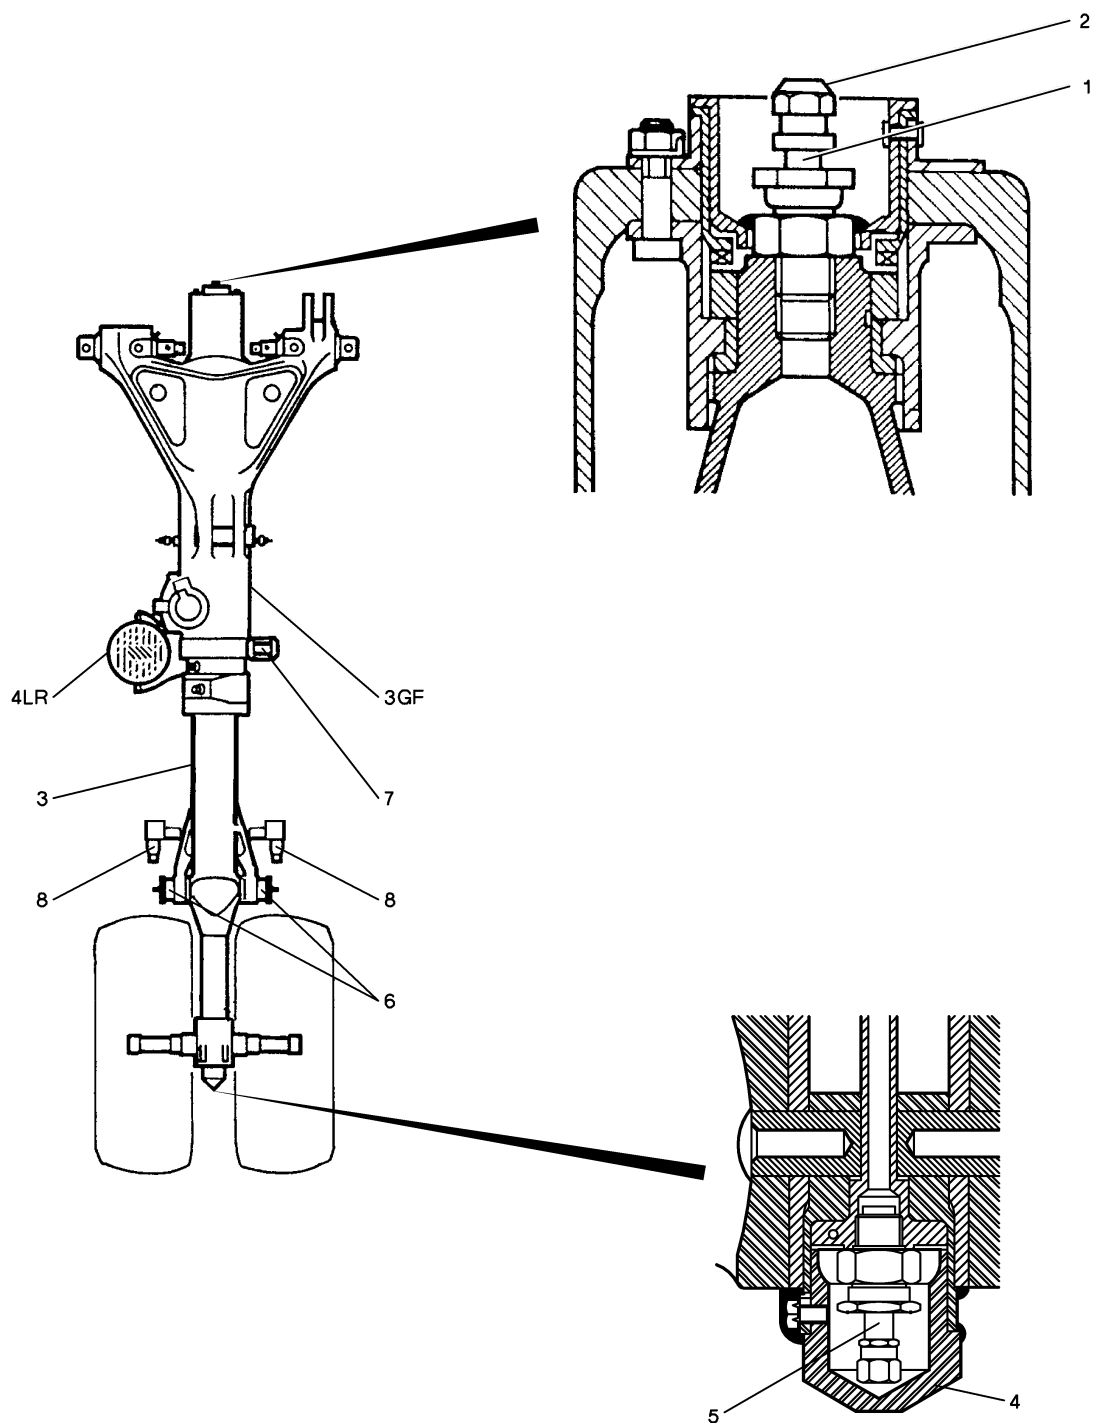
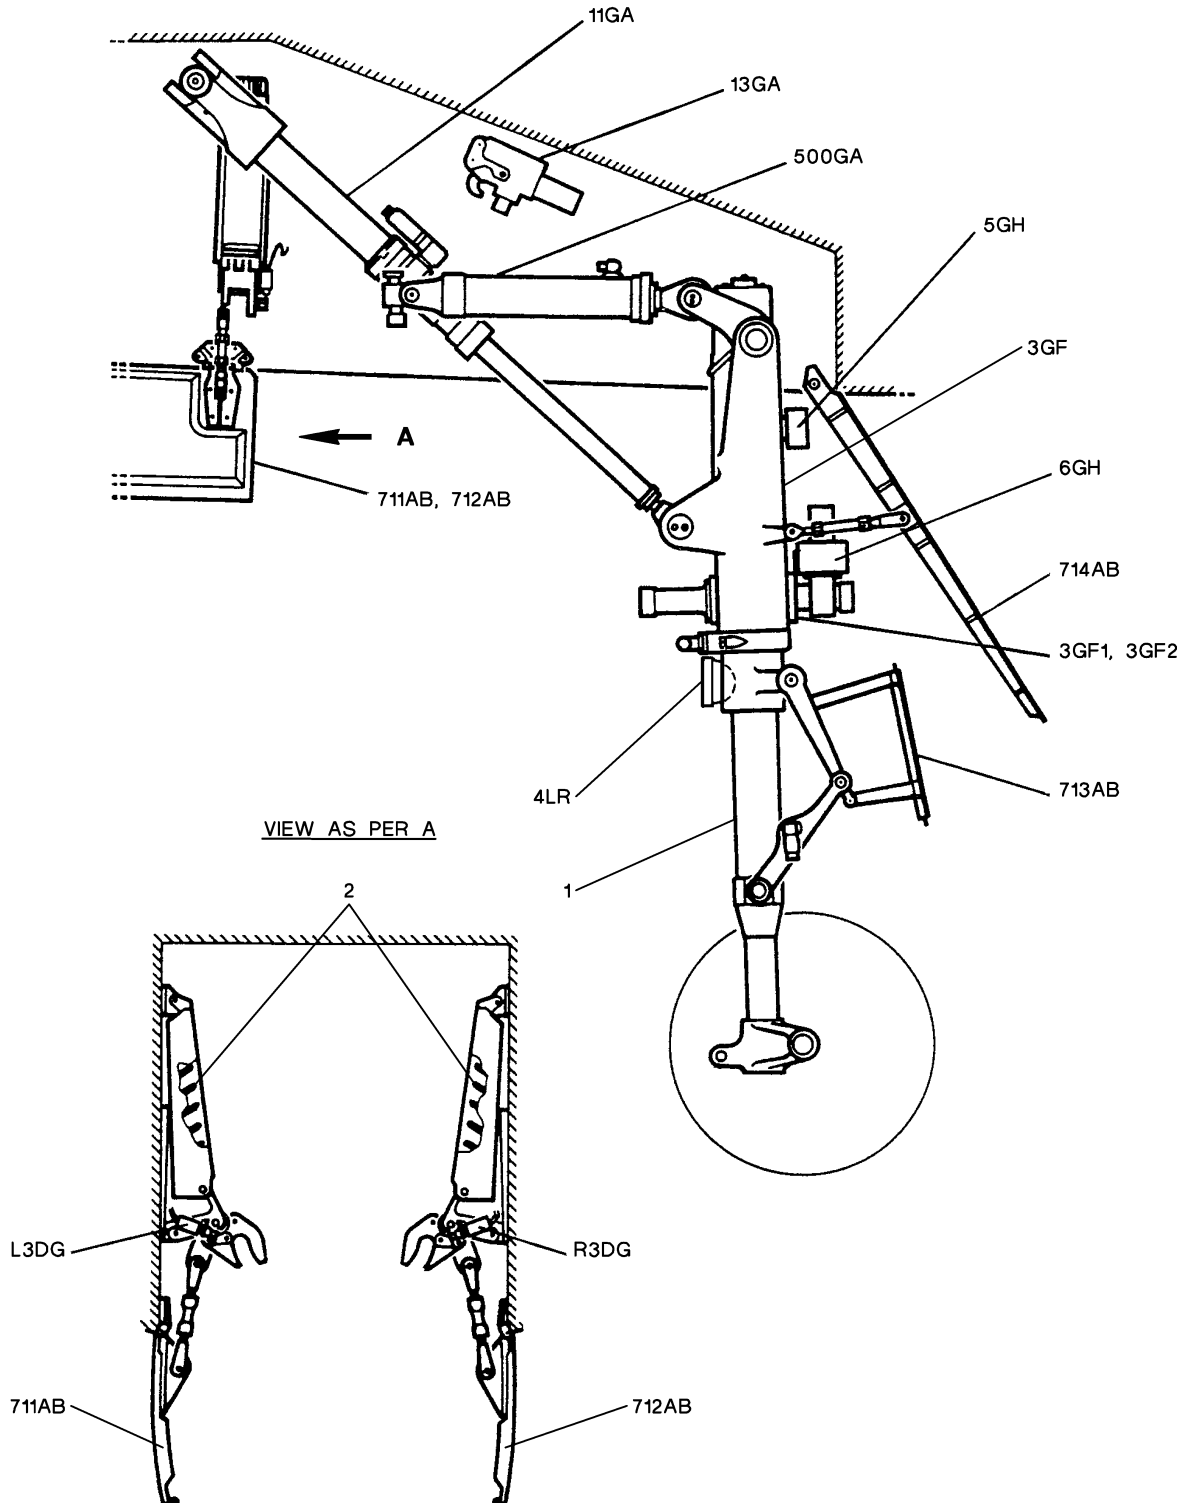

Figure 1: Location of Equipment Items of Nose Landing Gear
Figure 2: Nose Landing Gear and NLG Doors
Refer to **fig. 1** and **fig. 2**
A. Check taxi light (**4LR**) (**fig. 1**)
(1) Visually check for:
(2) Check that the light transparency is not cracked or broken.
B. Check nose landing gear leg (**3GF**) (**fig. 1**)
(1) At the top of the leg, check that charging/filling valve (1) is fitted with a protective blank (2).
(2) At the bottom of the box structure and of shock absorber (3)
C. Check the following components for condition (**fig. 2**):
- mechanism controlling doors (2) (**711AB**)/(**712AB**) and electrical connections of nose gear main door proximity sensors (**L3DG**)/(**R3DG**).
D. Check the condition of the electrical connectors and that they are correctly connected to nose steering repeater box (**6GH**) and to nose steering system servo (**5GH**) (**fig. 2**).
- I. Check towing lugs (6) and landing gear uplock (7) and door control rollers (8) for condition (**fig. 1**).
- J. Check the sliding rods for cleanliness (**fig. 2**):
- shock absorber (1),